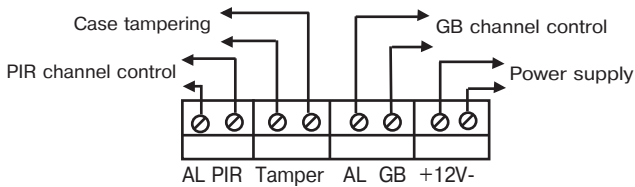

Figure 4 – The Detector connection pattern
- Fulfill connections in accordance with Figure 4.